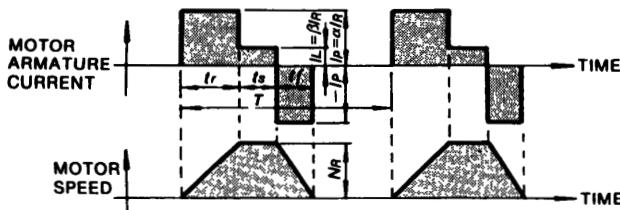

Fig. 4.3 Timing Chart of
- When the motor repeats rated-speed operation and being at standstill (Fig.4.3).